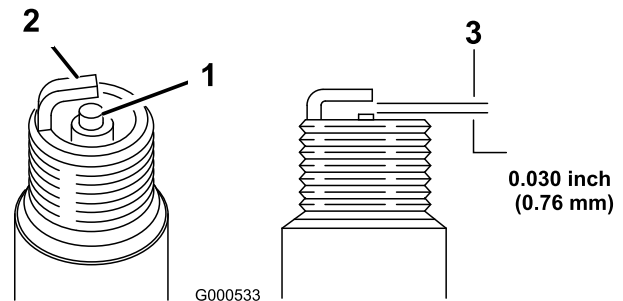

Figure 45
1. Look at the center of the spark plugs (Figure 45).
2. Check the gap between the center and side electrodes (Figure 45) and bend the side electrode if the gap is not correct.